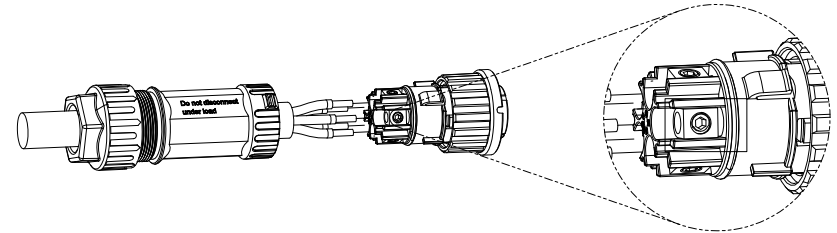

Figure 5.22 Connected cable
A) Stripped the insulation sleeve of cable for 70mm, so that bared copper-cored connector reaches for 9mm. Cable through nut and sleeve of socket element, insert corresponding terminals and tighten with allen wrench with 1.8-2.5N.m torque(see figure 5.22).
Tighten cable with 3.0 mm allen wrench(focus in dotted box, see figure 5.22). Allen screw is easy to drop off, don't screw out completely.